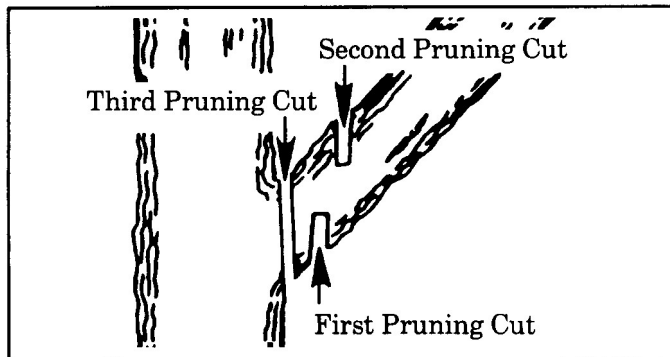

Figure 27
- b. **Refer to Figure 27 for the pruning technique.**